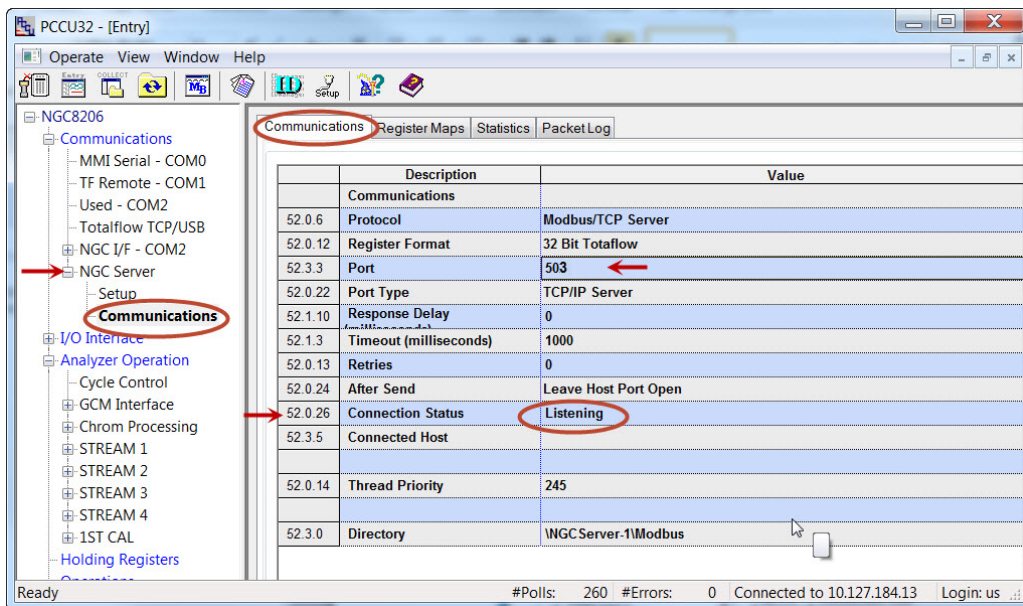

Figure 45. NGC Server communication parameters
- 4) Click re-read to verify the configuration has been saved correctly (see Figure 45).